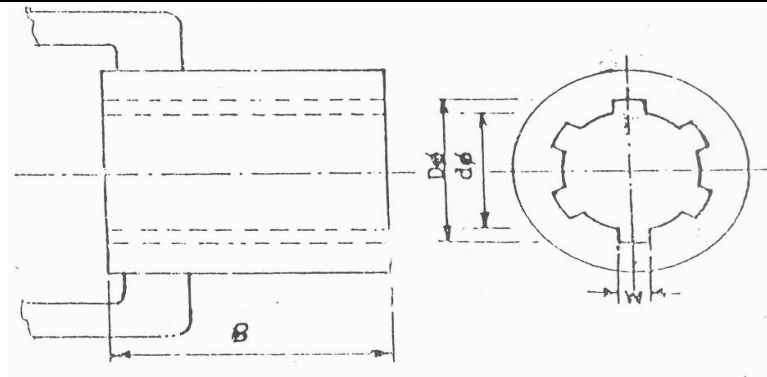

Fig 1 Hub dimensions, mm
Hub Dimension, mm Refer Fig 1 As per IS 4931:1995
<p style="text-align: center;">Fig 1 Feeding hopper with feed roller</p>
11.1	Specifications of Hopper and Feed Roller (Refer Fig 1)